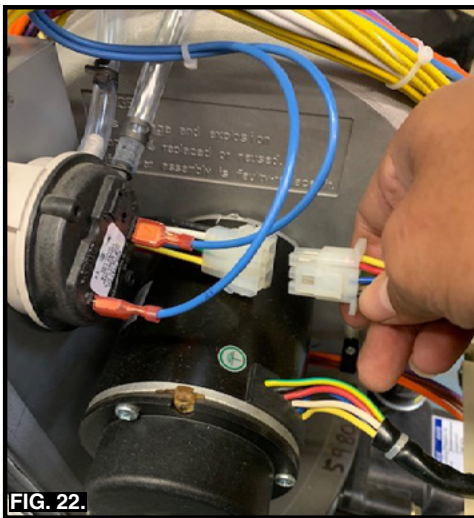

FIG. 22.
18. Connect the Blower assembly.(Fig. 22).